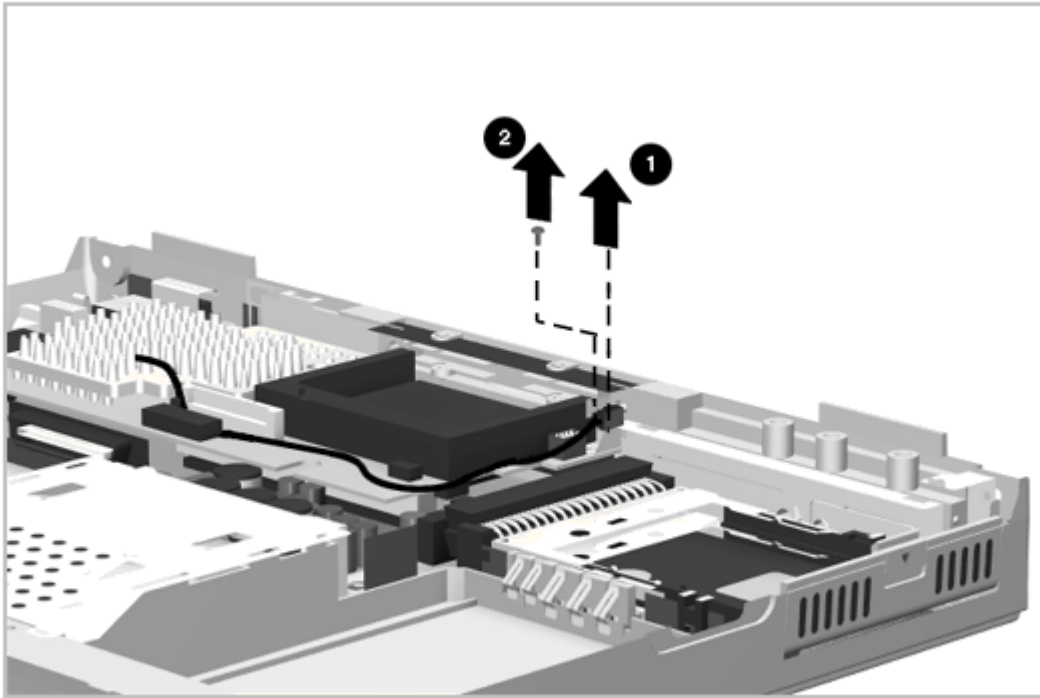

Figure 5-50. Removing the Processor Board Cable and Screws
8. Disconnect the thermistor cable [1] as shown in Figure 5-50.
9. Remove the screw [2] from the right rear corner of the processor board (Figure 5-50).